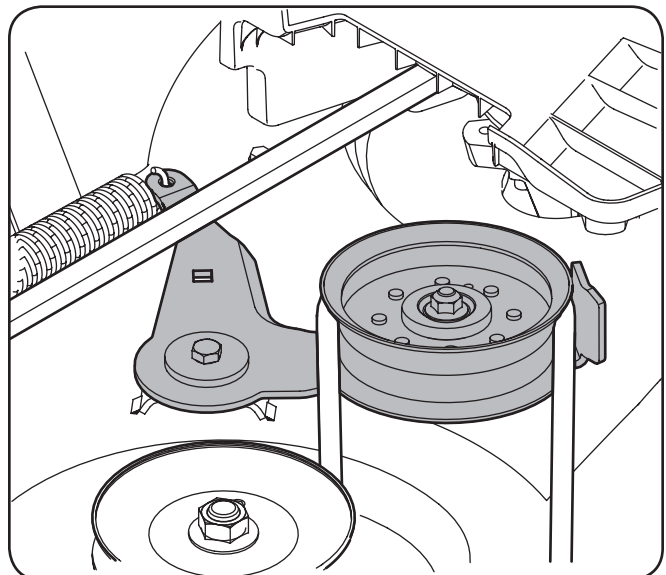

Figure 7-1
3. Working on the right side of the tractor, insert a 1/2-inch drive ratchet wrench, set to *tighten*, into square hole found on the idler bracket. See Figure 7-1.
4. Pivot the wrench forward to move the deck drive pulley forward. See Figure 7-1.